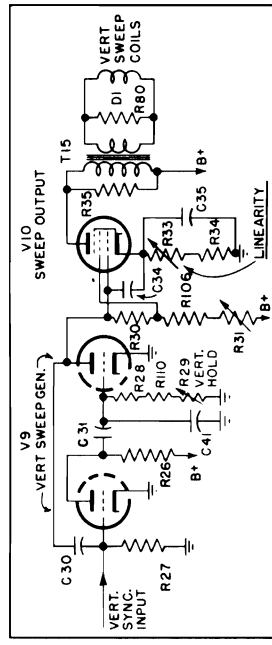

Fig. 9. Vertical Sweep and Output
7. VERTICAL SWEEP GENERATOR AND OUTPUT (SEE FIGURE 9)—The vertical sawtooth voltage is generated by a Type 6SN7GT tube, V9, connected as a multivibrator. This voltage is coupled directly to a Type 6V6G vertical sweep output amplifier tube,